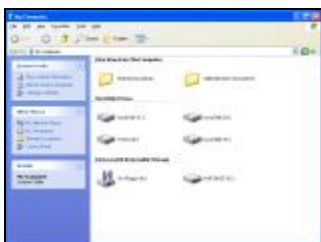

Fig.4.12
5. The removable disc AUTOBOSS will be displayed as Fig.4.12.